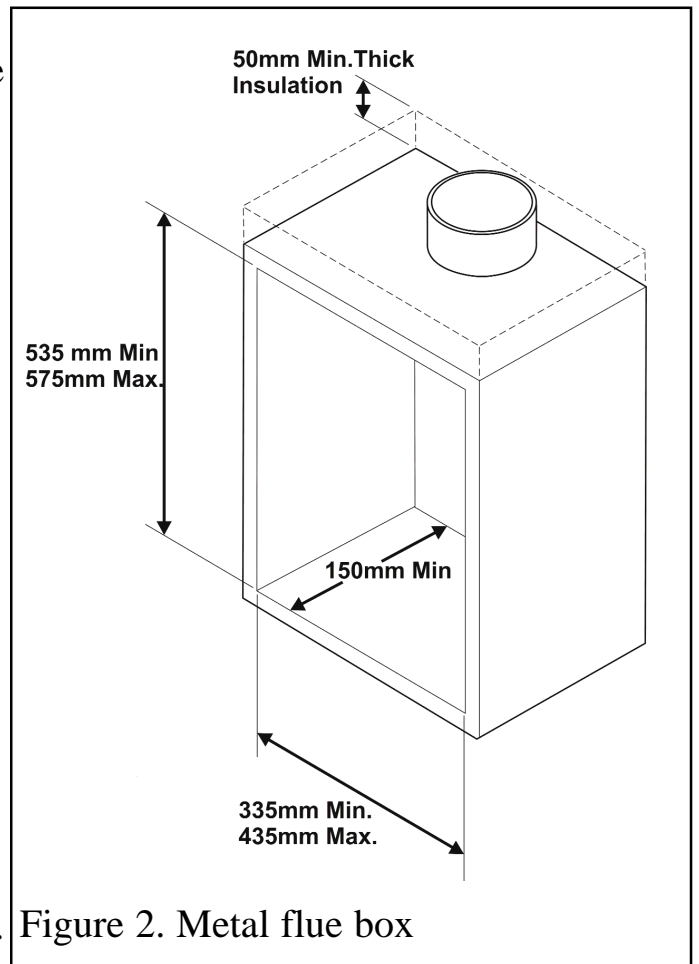

Figure 2. Metal flue box
**3.2.2** To a fireplace incorporating a metal flue box conforming to BS715 with a minimum internal depth of 150mm. Incombustible mineral wool insulation of not less than 50mm thickness must be applied to the top surface of the firebox (See figure 2) and it must stand on a non-combustible hearth. See figure 1.
The whole of the top surface of the metal flue box must be covered with a minimum 50mm layer of mineral wool or equivalent insulation (See figure 2).